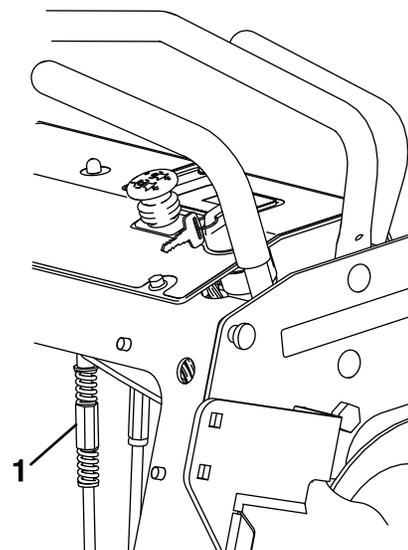

Figure 32
2. Adjust the rear control link (see Figure 32).